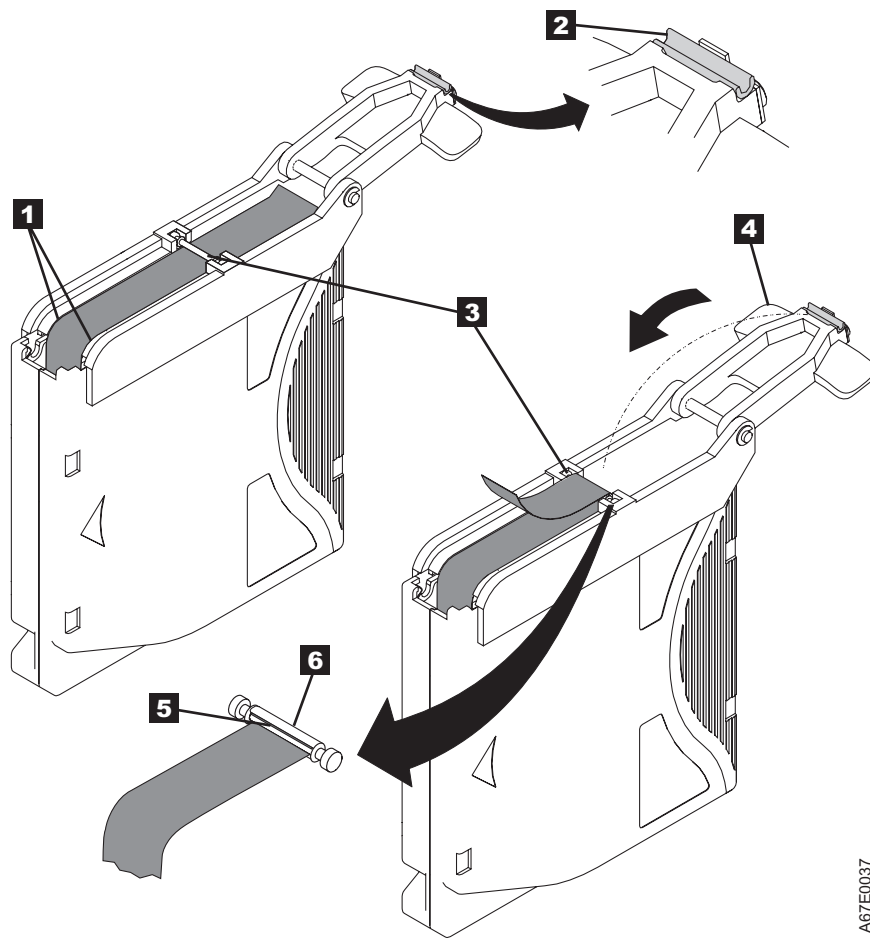

Figure 6-15. Attaching the leader pin to the tape
7. Position the tape in the alignment groove of the leader pin attach tool (see **1** in Figure 6-15 on page 6-17).
8. Place a new C-clip into the retention groove **2** (Figure 6-15 on page 6-17) on the leader pin attachment tool and make sure that the clip's open side faces up.
9. Place the leader pin (from step 6) into the cavity **3** (Figure 6-15 on page 6-17) of the leader pin attach tool.
10. Fold the tape over the leader pin and hold it with your fingers (see Figure 6-15 on page 6-17).